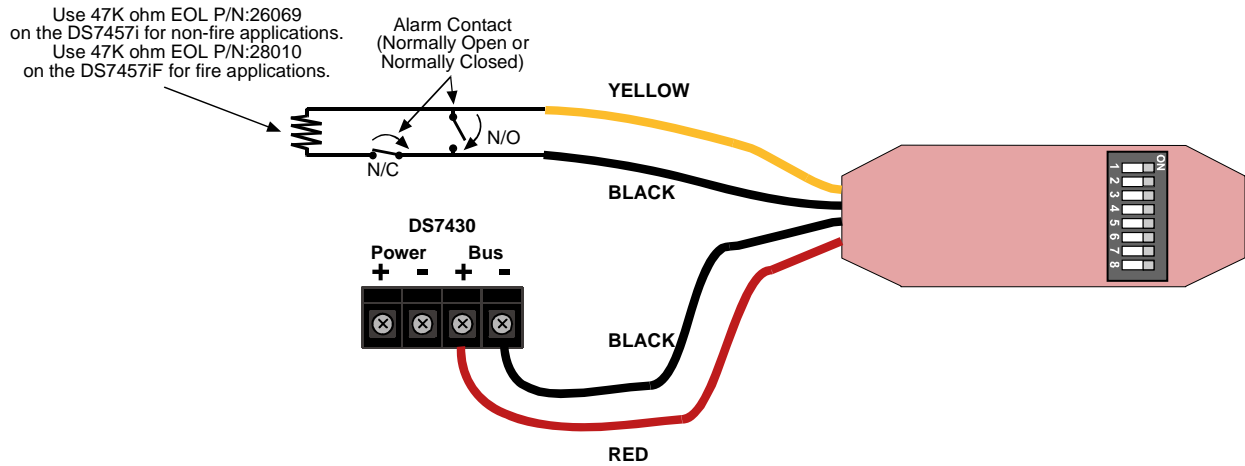

Figure 1: Wiring to a DS7430 Multiplex Expansion Module
- Connect wiring to the DS7457i/DS7457iF as shown in Figures 1- 3.